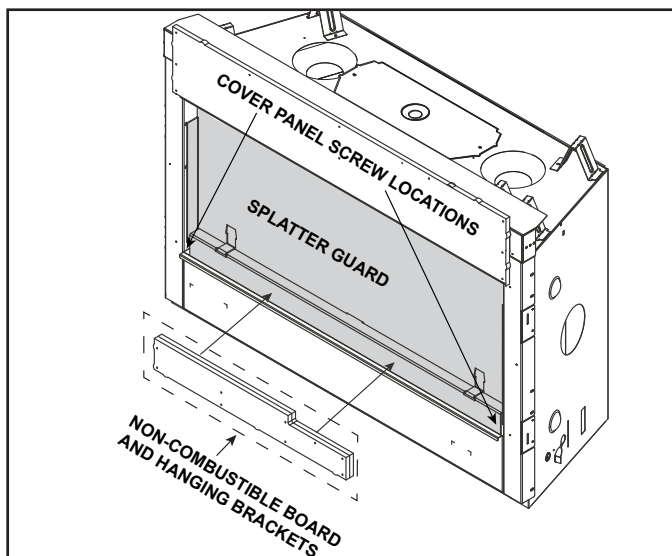
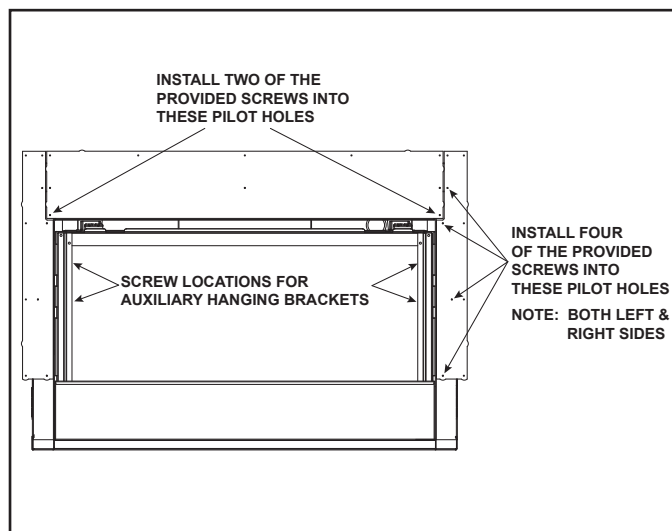
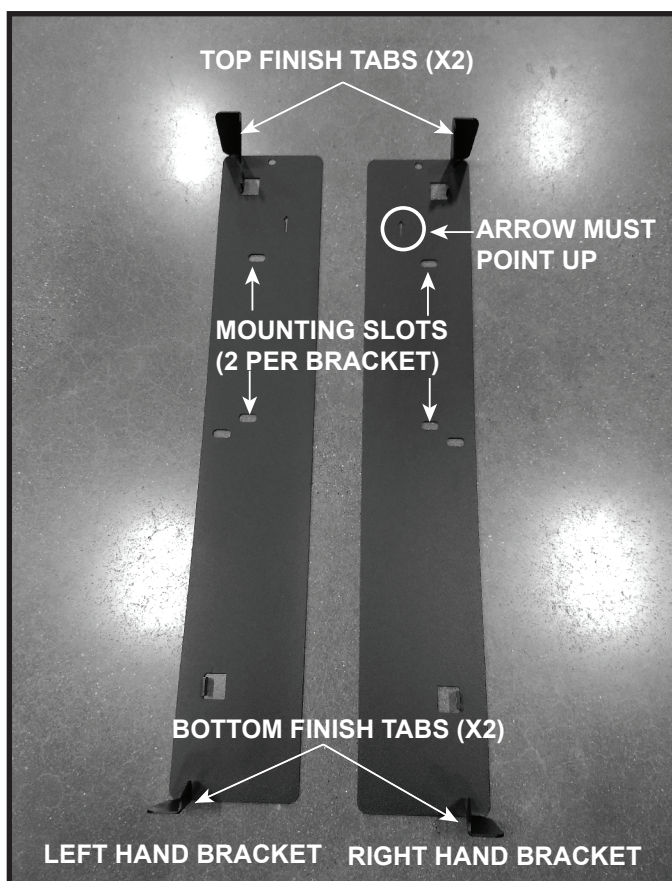

Figure 6.7 Shipping Position - Non-Combustible Sides and Auxiliary Hanging Brackets
Figure 6.8 Installation of the Side Non-Combustible Components
Figure 6.9 Auxiliary Hanging Brackets - Bent For Installation
This model ships with the required top, left and right non-combustible board. The top non-combustible board has been pre-installed at the factory with three screws. The left and right side non-combustible boards are shipped next to the non-combustible board inside the cardboard splatter guard in front of the appliance. See Figure 6.7.
4. Further secure the top non-combustible board by installing screws into the pilot holes located in the upper left and right corners of the top non-combustible board as shown in Figure 6.8.
5. Install the left and right non-combustible components with four of the provided Phillips screws. See Figure 6.8. After all non-combustible material has been installed, remove the small package of sheet metal screws from the manual bag. Reinstall the lower cover panel. Be sure to “hook” it onto the appliance. Use two screws from the package to fasten the top sides of the cover panel to the appliance. The holes from the cover panel should align with the holes in the sides of the appliance. See Figure 6.7.
The left and right auxiliary hanging brackets are shipped next to the non-combustible board in the cardboard splatter guard in front of the appliance. See Figure 6.7.
2. Bend the brackets as shown in Figure 6.9.
3. Using the shoulder screws included in the manual bag, attach the auxiliary hanging brackets onto the appliance as shown in Figure 6.8 using the mounting slots referenced in Figure 6.9. Pull the brackets away from the appliance to aid with finishing material installation.